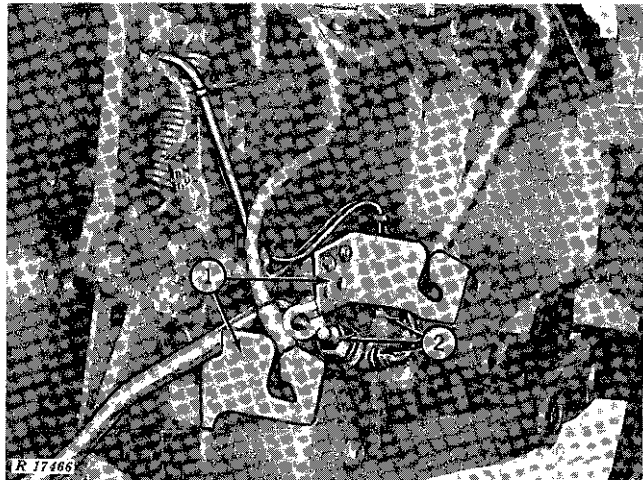

Fig. 9-Left-Hand Side of Transmission Case
1. Remove both left-hand side battery box supports (Fig. 9).